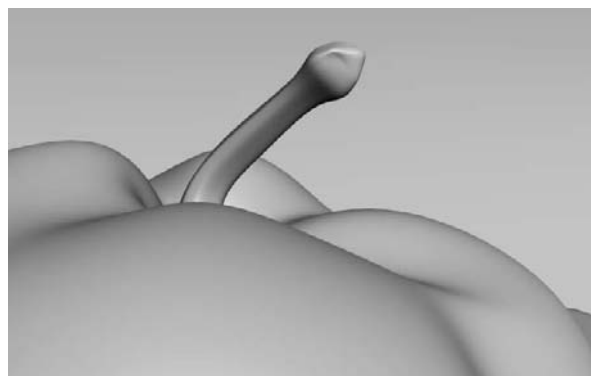

Figure 11.8
*Antialiasing* can smooth this stepped effect on diagonal or curved lines. It blurs and mixes the color values of pixels adjacent to the jagged line or curve, as shown in Figure 11.8. Turning this feature off will speed up your renders, but the quality loss will be noticeable.